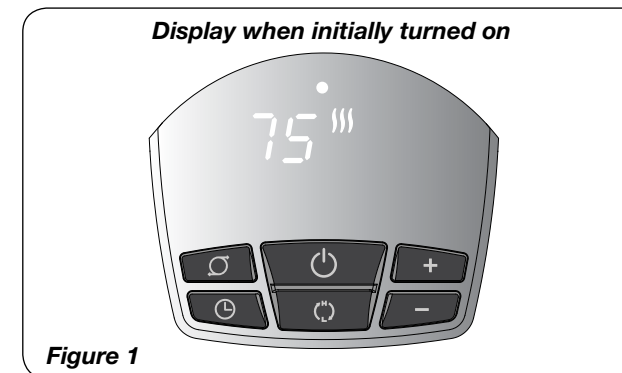

Figure 1
7. Upon turning the Heater on, the unit will be in HIGH heat (III) (1500 Watts) and will display the current room temperature (Figure 1)
8. Press the (⌚) button for LOW heat (II).